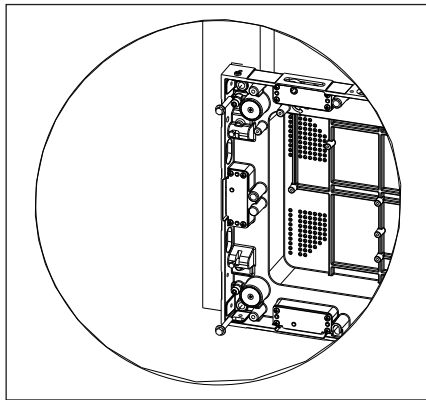

Figure 4: Secure Panel to Tubes
- 5. Secure the panel to the tubes through all four corner mounting locations. Refer to **Figure 4**.